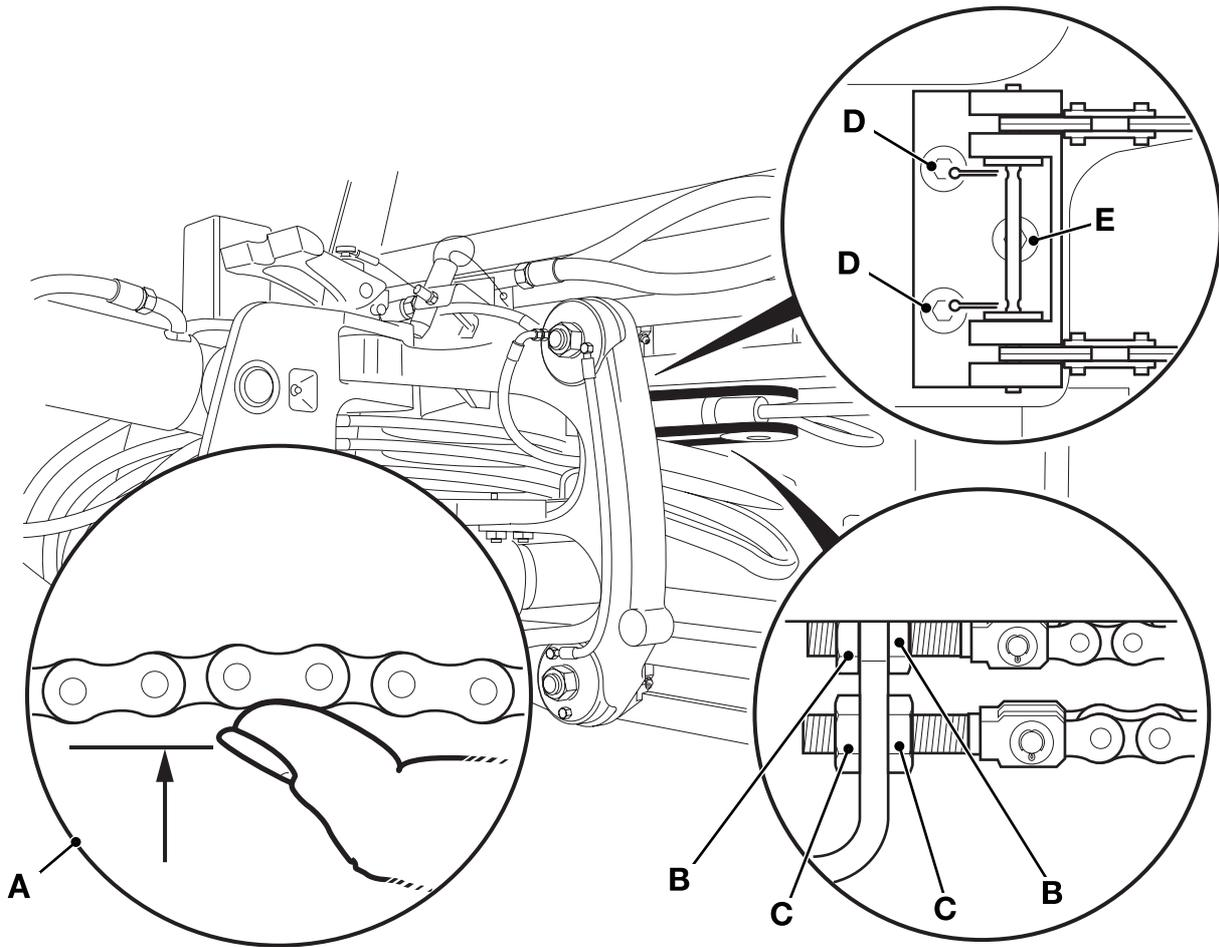

Fig 10. Chain Adjustment
- 3 → Fig 10. (□ B-136). Check the chain tension which should be 5 to 10 mm (0.19 to 0.39 in) deflection **A** at the mid point. The tension should be equal for all chains.